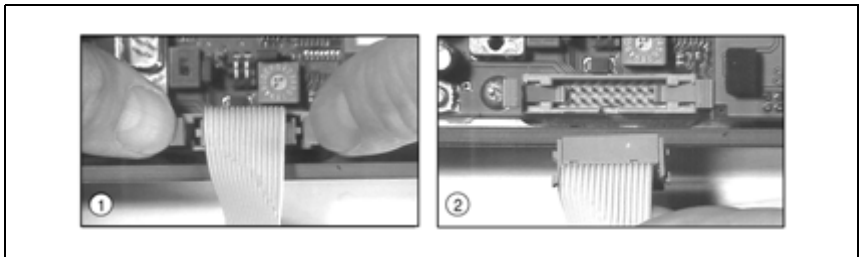

Figure 6.10: Disconnecting the ribbon cable inside the MA 10
The two halves of the housing are now connected to each other only by the ribbon cable. You can now disconnect the ribbon cable from the electronic circuit board for better access, as shown in figure 6.10.
- ↪ To disconnect the ribbon cable, carefully press down the two latches of the ribbon cable plug at the same time, as shown in figure 6.10 of ①.
The cable is now free (② in figure 6.10) and the half with the electronics and the connection terminal can be removed for unhindered connection.